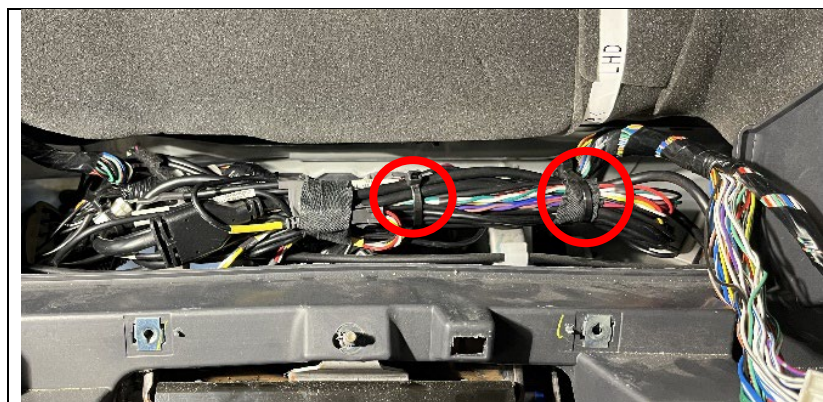

Figure 23
19. Cut the two (2) zip ties that are securing the Mobileye System harnesses behind the meter cluster. (See Figure 23.)